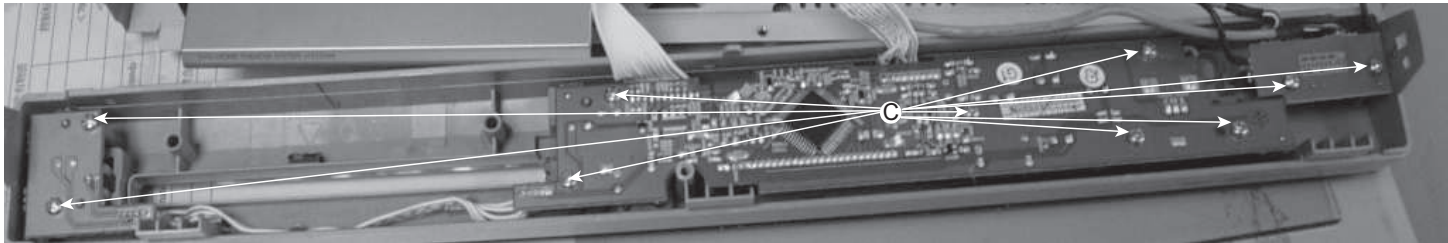

Figure 6
- 1) Loosen 10 screws “C” on the top of control board as shown in figure 6